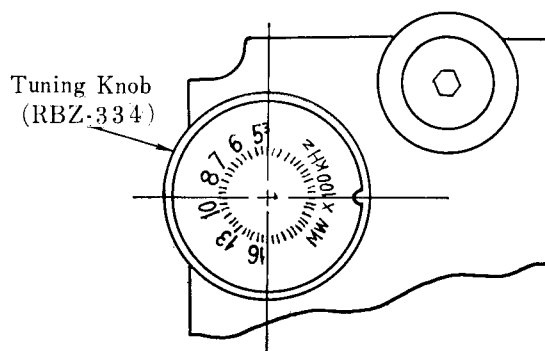

Fig. 6
1. Set tuning gang to position, as illustrated in fig. 6.